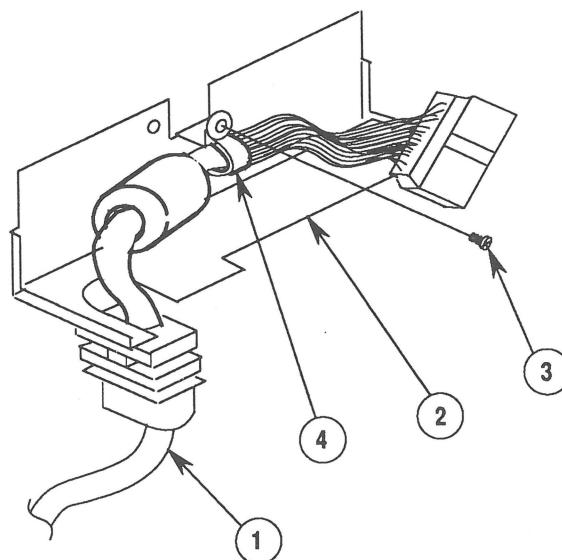

FIGURE 11
4. If you are replacing either the external drive cable (Figure 11, #1) or the shield (Figure 11, #2), first separate them by removing the ground screw (Figure 11, #3).
1. If necessary, replace the external drive cable (Figure 11, #1) in the shield clamp (Figure 11, #4), and replace the ground screw (Figure 11, #3).